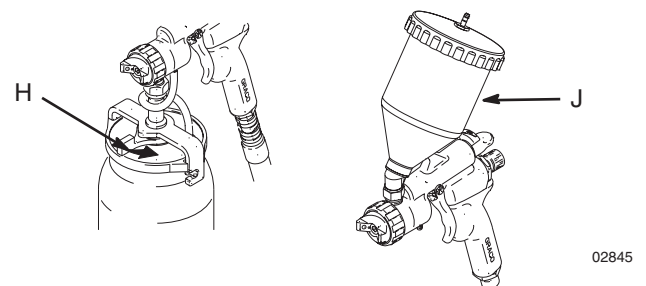

FIG. 4
Fill cup 3/4 full to keep air pressure tube clean. Install cover. Latch the under-cup cover (H) to secure it to cup. Fig. 4. The overcup (J) has threads to secure it in place on the cup.